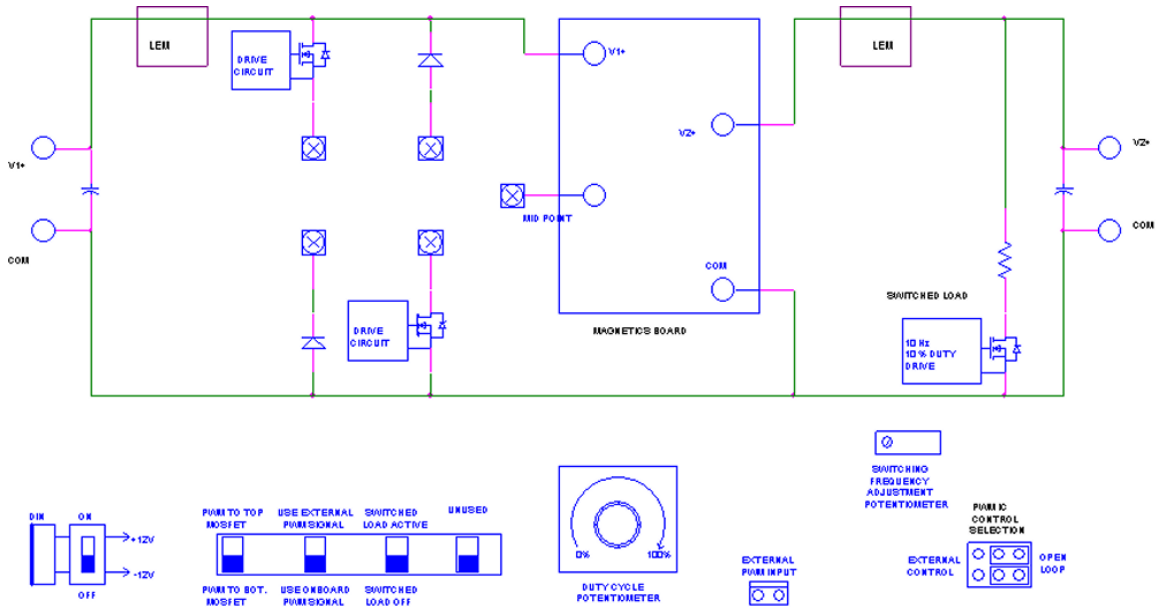
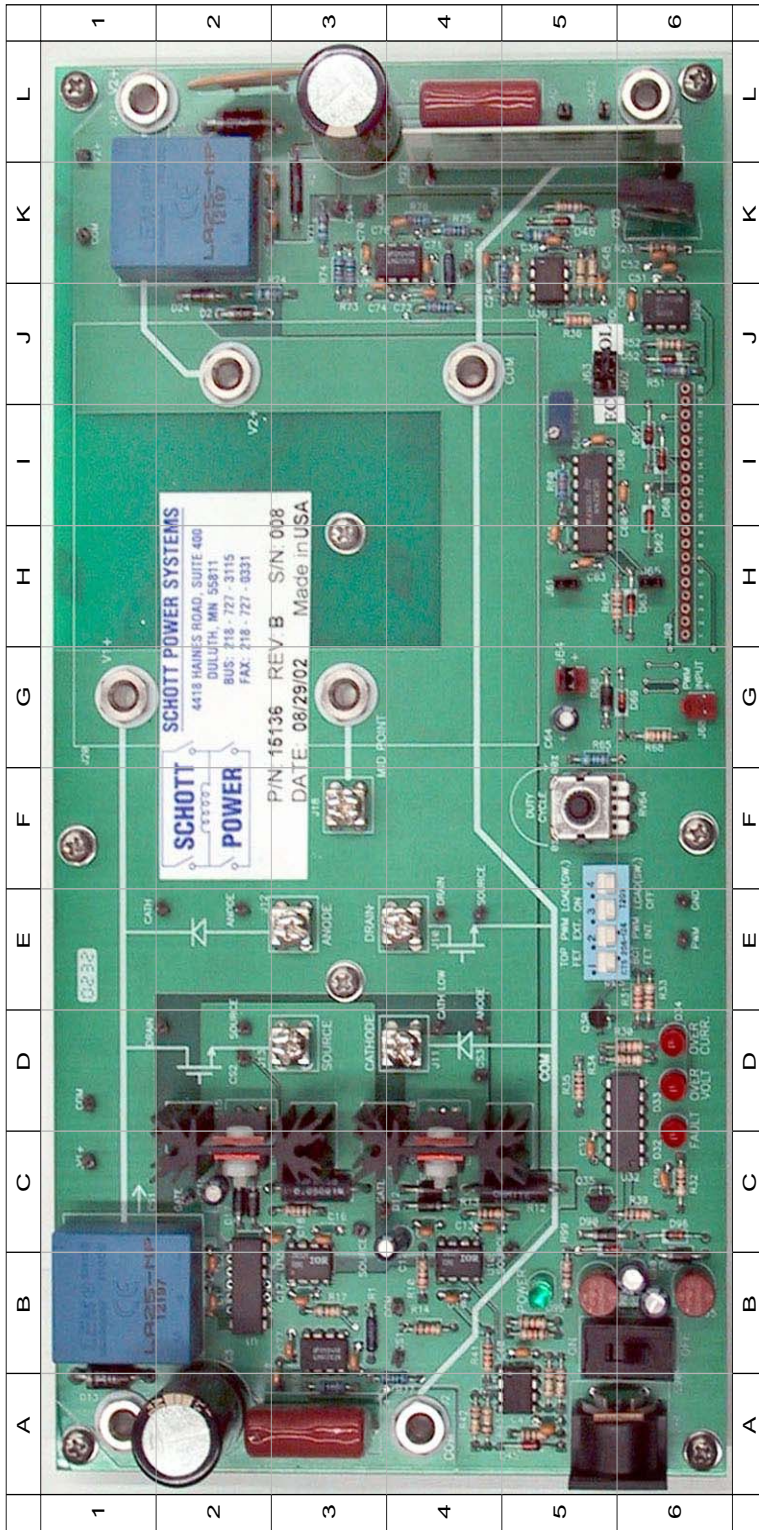

Figure 1.1: Block Diagram of Power-pole Board
Figure 1.2: Power-pole Board
The basic block diagram of the Power-pole Board is shown in Fig. 1.1 and the actual board is shown in Fig. 1.2. Please note that the location of the various components on the board are indicated in Table 1.1.
- Connect the positive and negative terminals of a **differential probe** to terminals *CS2* and *SOURCE* (D-2 in Fig. 1.2) of upper MOSFET . The current sense resistor value is  $0.05 \Omega$ .
- Connect an oscilloscope probe to the *DRAIN* and its ground to the *SOURCE* (E-4 in Fig. 1.2) of the lower MOSFET .
- Connect an oscilloscope probe to terminal *CS3* and its ground to the *SOURCE* (E-4 in Fig. 1.2) of the lower MOSFET . The current sense resistor value is  $0.05 \Omega$ . The same test points also measure the lower diode current if that is included in the circuit.
- Connect the positive and negative terminals of a **differential probe** to terminal *CATH* and *ANODE* (E-2 in Fig. 1.2) of the upper diode.
- Connect an oscilloscope probe to *CATH LOW* and its ground to the *ANODE* of the lower diode (D-4 in Fig. 1.2).
$\pm 12$  volts signal supply is required for the MOSFET drive circuits and also the measurement and protection circuits. This is obtained from a wall-mounted isolated power supply, which plugs into the DIN connector J90 (A-5 in Fig. 1.2). Switch S90 (B-6 in Fig. 1.2) controls the signal power to the board. Each time a fault occurs, turn off and turn on this switch to reset the board. The green LED D99 (B-5 in Fig. 1.2) indicates if the +12 V signal supply is available to the board. Fuses F90 (B-5 in Fig. 1.2) and F95 (B-6 in Fig. 1.2) provide protection for the +12 V and -12 V supplies respectively.
Any external load is to be connected across terminals V2+ and COM (L-1 and L-6 in Fig. 1.2).
An onboard switched load is provided to facilitate the observation of the transient response of any converter built using the power-pole. Thus it is possible to periodically switch in and out a 20  $\Omega$  load (K-4 to K-6 in Fig. 1.2). The frequency and duty ratio of this load is fixed at 10 Hz and 10%.
- Put switch 3 of selector switch bank S30 (E-5 in Fig. 1.2) to the top position (Load(SW) ON).
- Connect the positive and negative terminals of a **differential probe** to *CS LOAD 1* and *CS LOAD 2* (L-5 in Fig. 1.2). This measures the voltage across the 20  $\Omega$  resistor.
- Connect the oscilloscope probe to test point *V1+* (C-1 in Fig. 1.2) and its ground to *COM* (D-1 in Fig. 1.2).
- Connect the oscilloscope probe to test point *V2+* (K-1 in Fig. 1.2) and its ground to *COM* (L-1 in Fig. 1.2).
LEM current sensors (B-1, K-2 in Fig. 1.2) are provided to measure the input and output currents. The input current sensor is located after the input filter capacitor, and the output current sensor is located before the output filter capacitor. Calibration of the current sensors is such that for 1A current flowing through each, the output is 0.5 V. These signals are amplified by a factor of 2 and are brought out to the daughter board connector J60, for use in feedback current control. Currents through the MOSFETs and output capacitor are measured using current sense resistors. Refer to Table 1.2 for details of the various current measurement test points.
- Connect oscilloscope probe to *CS1* (B-1 in Fig. 1.2) and its ground to *COM* (D-1 in Fig. 1.2).
- Connect oscilloscope probe to *CS5* (K-2 in Fig. 1.2) and its ground to *COM* (L-1 in Fig. 1.2) .
- Connect oscilloscope probe to *CS4* (K-3 in Fig. 1.2) and its ground to *COM*. The current sense resistor value is  $0.1 \Omega$ .
The power-pole MOSFETs are driven by high side drivers IR2127. These drivers have in-built overcurrent protection using a current-sense resistor for each MOSFET (see locations C-3 and C-5 in Fig. 1.2). The voltage across these sense resistors can be observed using test points provided on the board.
PWM signals required for the MOSFETs can be generated using the on-board PWM controller UC3824 (I-5 in Fig. 1.2). There is also an option to supply PWM signals from an external source.
- Put switch 2 of the selector switch bank S30 (E-5 in Fig. 1.2) to its bottom position (PWM INT.).
- Connect the external PWM signal to the terminal J68 (G-6 in Fig. 1.2).
While using the onboard PWM for operation of the power-pole in open-loop, the duty ratio can be controlled using pot RV64 (F-5 in Fig. 1.2). The duty ratio can be varied from 4% to 98%. The frequency of the PWM can be adjusted using the trim pot RV60 (I-5 in Fig. 1.2).
There is a provision for providing an external ramp to the UC3824 IC. This is useful for peak current mode control. For this, remove jumper J61 (H-5 in Fig. 1.2) and use the RAMP pin on daughter board connector J60.
Frequency analysis of any converter built using the power-pole can be done by injecting a low voltage sinusoidal signal at jumper J64 (G-5 in Fig. 1.2). To do this,
The power-pole board can be operated in either open or closed loop and is selected by jumpers J62 and J63 (J-5 in Fig. 1.2). For open loop operation,